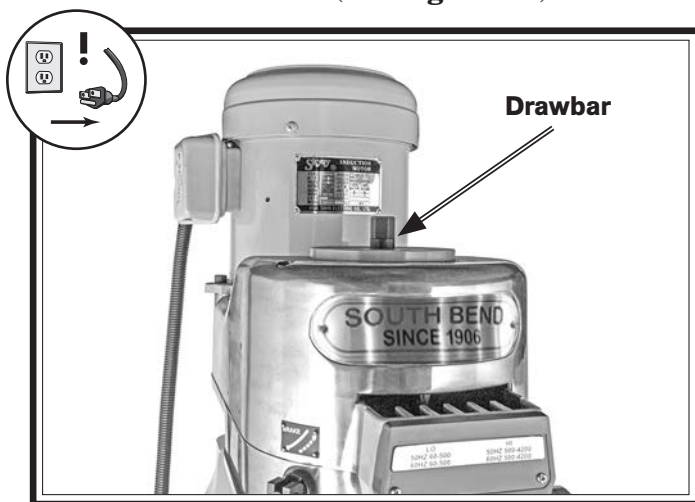

Figure 51. Drawbar loaded into spindle.
5. With one hand holding tool in place, insert drawbar into spindle from top of head, then thread it into tool (see **Figure 51**).